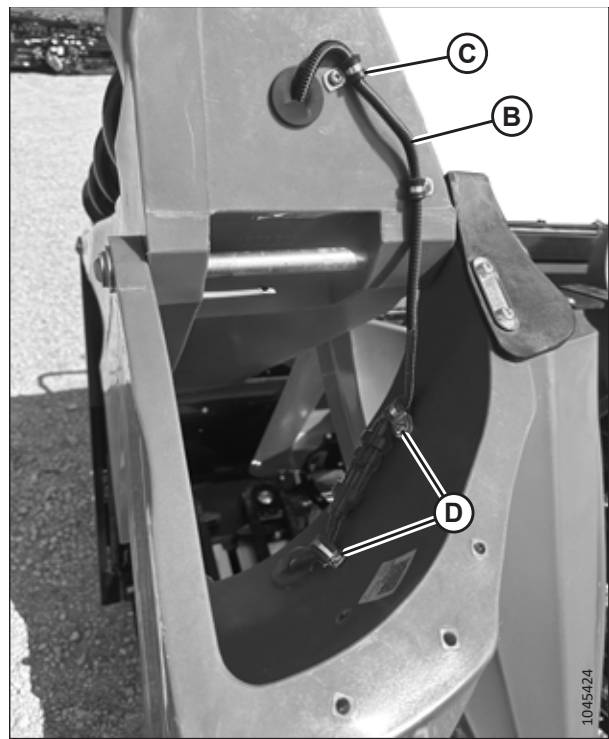

Figure 4.50: End Divider
- For end divider, route cable as shown in Figure 4.50, page 46.